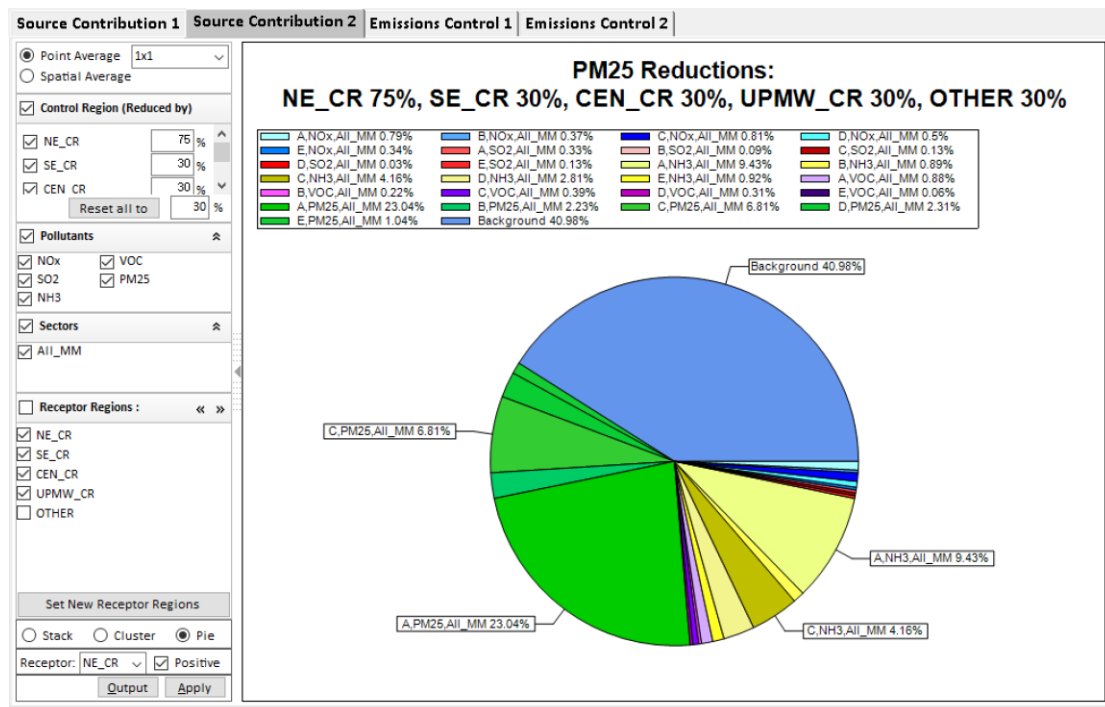

Fig. 68 Pie chart in Source Contribution 2
**Pie chart:** This option shows the source contributions to PM2.5 or O3 in a selected receptor region caused by the emission control scenario from current configuration options. As shown in Fig. 68, the drop down menu of **Receptor** option on the bottom of configuration panel only takes effect in checked **Pie** option. It lists all receptor regions from **Receptor Regions** list panel, and uses the first item as default. Fig. 68 shows that the emission sources from NE\_CR primary PM2.5 (A,PM25,All\_MM) have a greater impact (~23.04%) on PM2.5 Reduction of NE\_CR compared to other control factors.